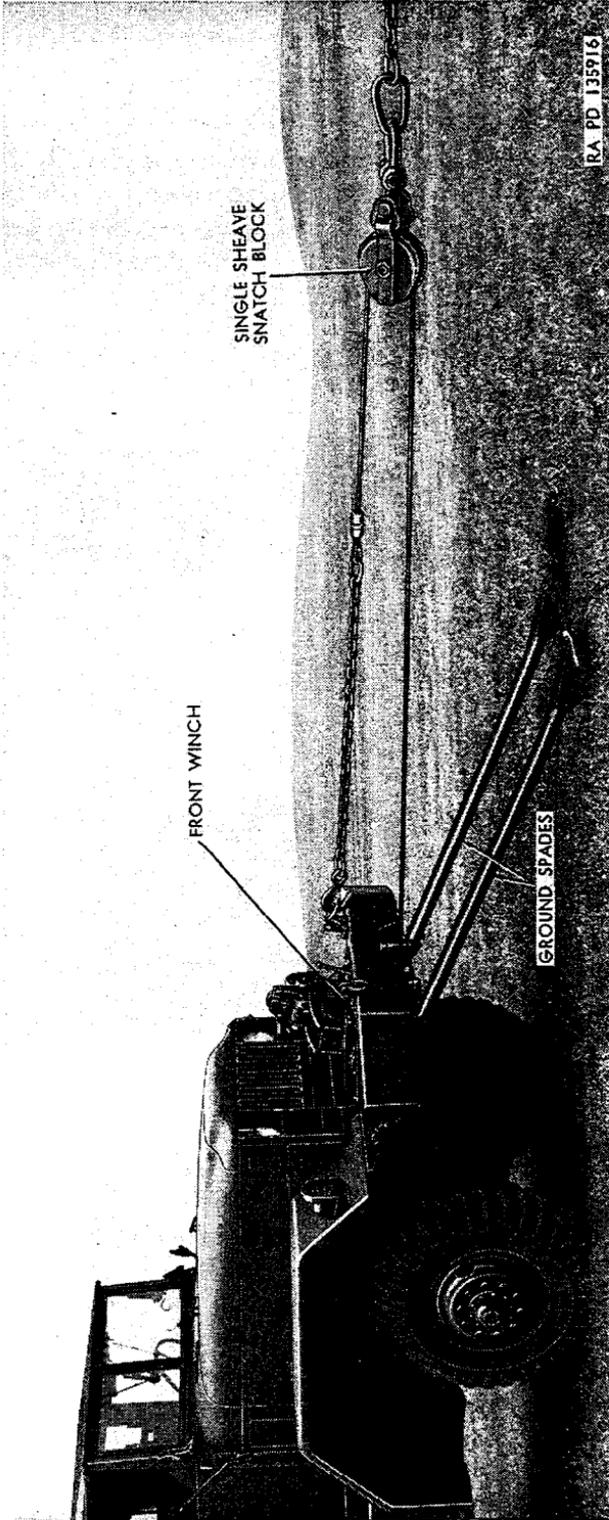
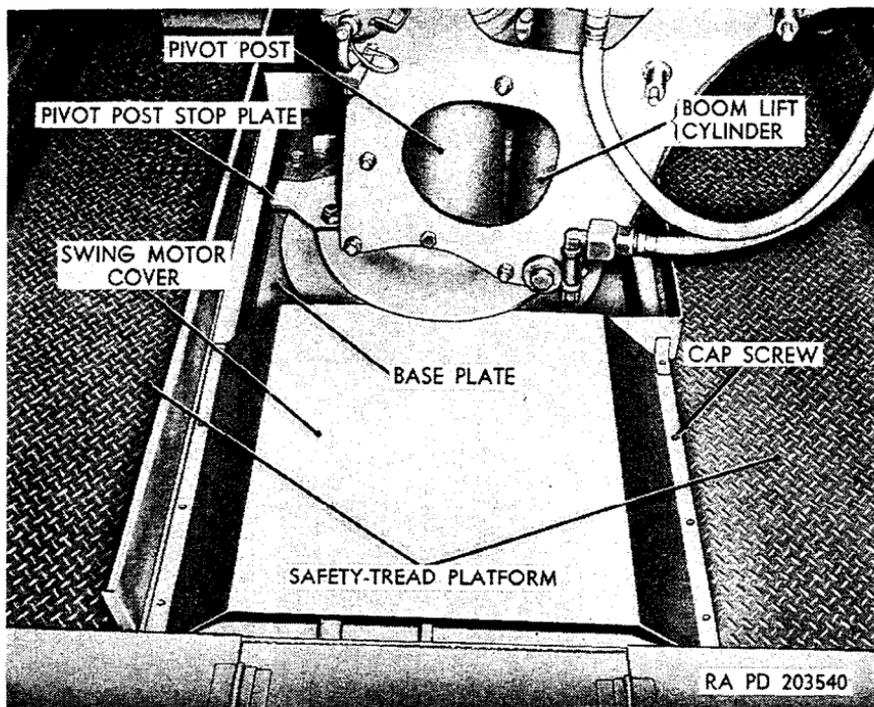

Figure 73. Ground spades positioned for front winch operation.
Figure 78. View of lower section of crane revolving structure.
- (4) *Pulling heavy load.* Ground spades (fig. 73) and snatch blocks are supplied with the M62 wrecker for excessively heavy loads. Figure 73 illustrates use of two-part line with single sheave snatch blocks. Brackets are provided at front end of frame for ground spades to help secure vehicle.
- (2) *Pivot post and boom assembly.*
- (a) The pivot post (fig. 73) and boom assembly is rotated 360° by a hydraulic double-acting piston-type swing motor (fig. 79) geared to the base of the pivot post. A removable stop plate positioned on the pivot post (fig. 78) contacts stops which are integral with the base plate (fig. 79) to limit rotation of the boom to 270°.
- (b) The boom is raised and lowered hydraulically by a large-diameter vertically-mounted cylinder (fig. 78), which is connected between the base of the pivot post and the underside of the boom. In addition to the up and down angular movement of the boom, the outer end of the boom can be extended or retracted a distance of approximately eight feet by means of a hydraulic cylinder mounted horizontally inside the boom itself.
(8) Platform, toolbox, operator's compartment, and lights.
- (a) A large safety-tread platform (fig. 78) surrounds the crane revolving structure, with access grips and steps (fig. 81) at each end of the crane body.
- (b) The boom is raised and lowered by a large-diameter vertically-mounted hydraulic cylinder, the same as that illustrated in figure 78 for the medium wrecker truck M62, which is connected between the base of the pivot post and the underside of the boom. In addition to the up and down angular movement of the boom, the outer end of the boom can be extended or retracted a distance of approximately 14 feet by a hydraulic cylinder mounted horizontally inside the boom.